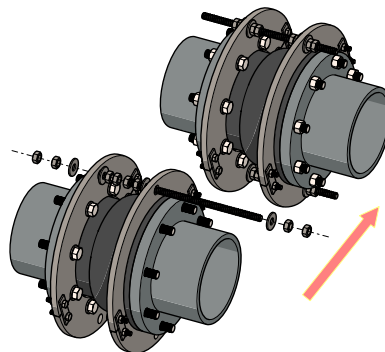
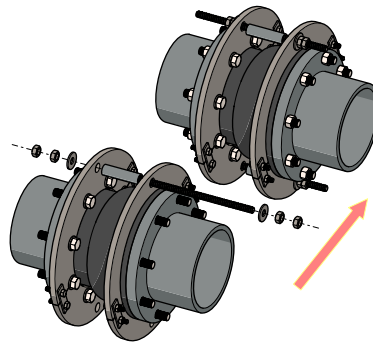

Figure 19: Control Rod with Internal Hardware Installation
Figure 20: Control Rod with Compression Sleeve Installation
Step 6: Insert the control rod through the ITR plate holes while adding the additional hardware as shown in Figure 19 for a typical installation with internal hardware or as shown in Figure 20 which utilizes compression sleeves instead of internal hardware. Replace flat washers with spherical washers whenever application requires.